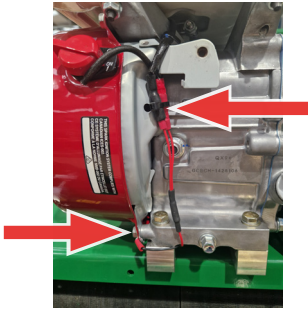

Fig. 14C - Disconnect cables to the engine.
4. Disconnect the earth [10 mm spanner] and ignition cables connecting to the engine (Fig. 14C).